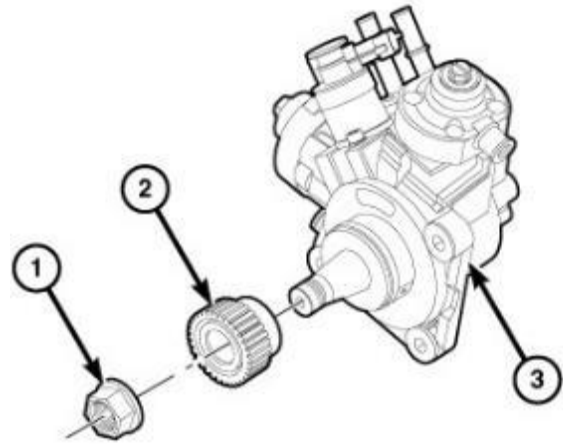

Figure 17 – Removing the Drive Gear on the HPFP
26. The use of Puller 1023 or a commercially available gear puller is required to remove the fuel injection pump gear (2) (Figure 17).
28. Install the gear (2) and **NEW** nut (1) onto the **NEW** high-pressure pump (3) and tighten the nut (1) finger tight (Figure 17).